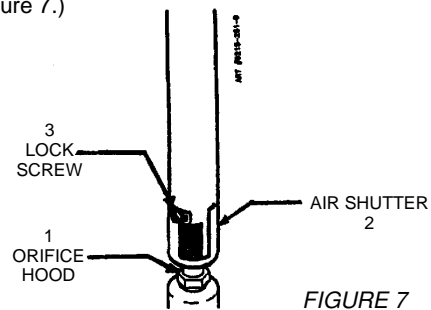

FIGURE 7
1. Yellow flame on burner - open burner air shutter to the widest opening that will not cause the flame to lift or blow off the burner when cold. (See #2 on figure 7.)
2. Distinct blue flame but lifting - close burner air shutter to the point where it will not cause the flame to lift or blow off the burner when cold. (See #2 on figure 7.)